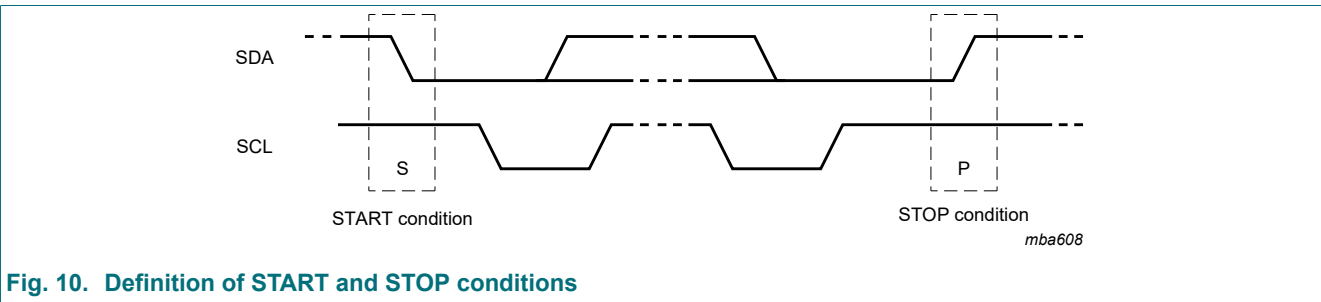

Fig. 10. Definition of START and STOP conditions
Both data and clock lines remain HIGH when the bus is not busy. A HIGH-to-LOW transition of the data line while the clock is HIGH is defined as the START condition (S). A LOW-to-HIGH transition of the data line while the clock is HIGH is defined as the STOP condition (P) (see Fig. 10).